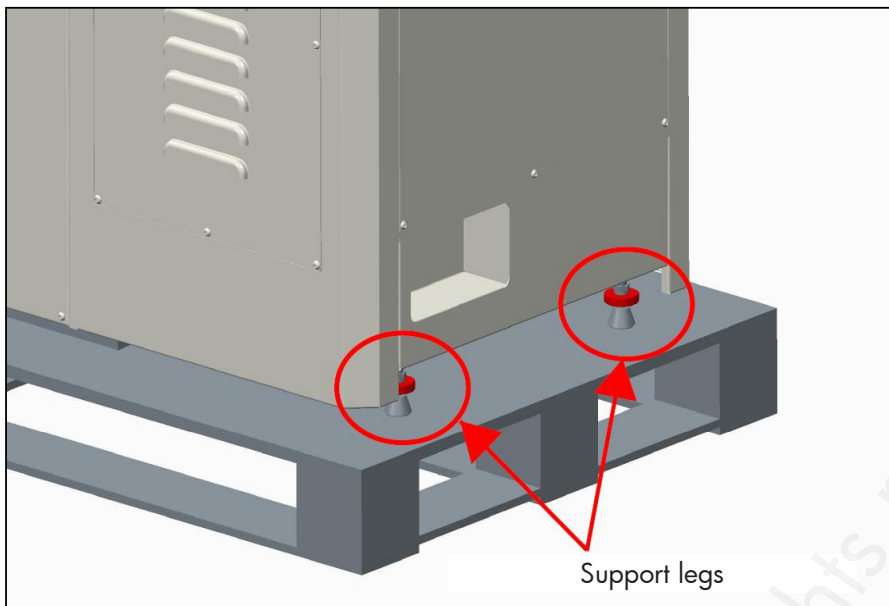

Figure 8
Step 2: As on figure 8 indicated, at the bottom, you can find two support legs, turn the red handles to raise legs up about 25 mm (1 inch).
6. When the equipment is in place, turn the red handles (see figure 8) to make the support legs touch the ground.